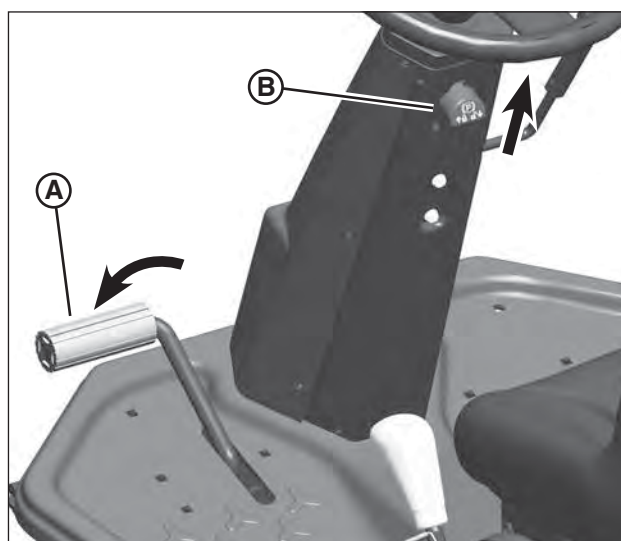

Figure 16: Setting the parking brake
1. Fully depress the clutch/brake pedal (A, Figure 16).
2. Slide the parking brake (B) up and hold while releasing the clutch/brake pedal. The parking brake is now set.